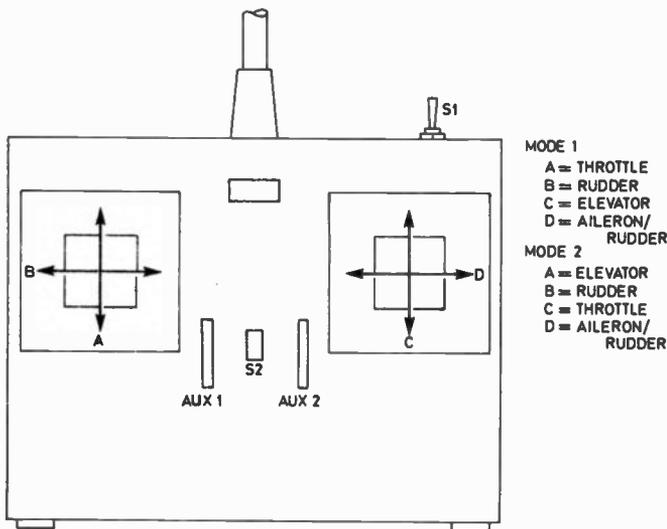

Fig. 2.7. Stick modes. Note: Throttle is usually a ratchet and all other functions are self-centering.
Fig. 2.7 shows the positioning of the two auxiliary function sticks on the front panel as used in the prototype. The 7th channel was a switch on the top panel positioned such that it was in easy reach of the right index finger. This requires a $\frac{1}{4}$ in hole.
With all the items now secured into the case the wiring-up can now proceed. Start with the supply connections as shown in Fig. 2.7. The voltage offset components D3 and R23 provide the connection between the meter and switch and their leads should be kept as short and as close to the case front as possible to avoid
An ideal order for the channels is to have the most used functions first as follows: (1) Aileron/Rudder, (2) Elevator, (3) Rudder, (4) Throttle, (5) Aux. 1, (6) Aux. 2, (7) Switch. Fig. 2.7 shows where these functions will appear on the sticks.